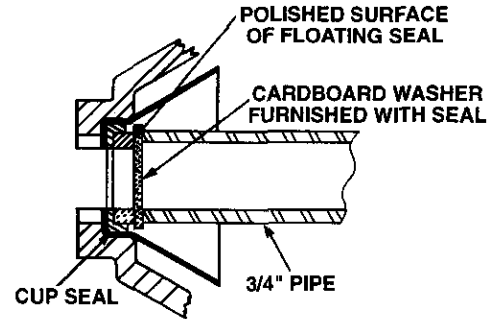

Figure 9
- With finger pressure, press firmly and squarely into cavity. Polished face of seat faces inside of pump. If seat will not locate properly, place cardboard washer over polished face and use piece of 3/4" standard pipe for pressing purposes. See Figure 9.